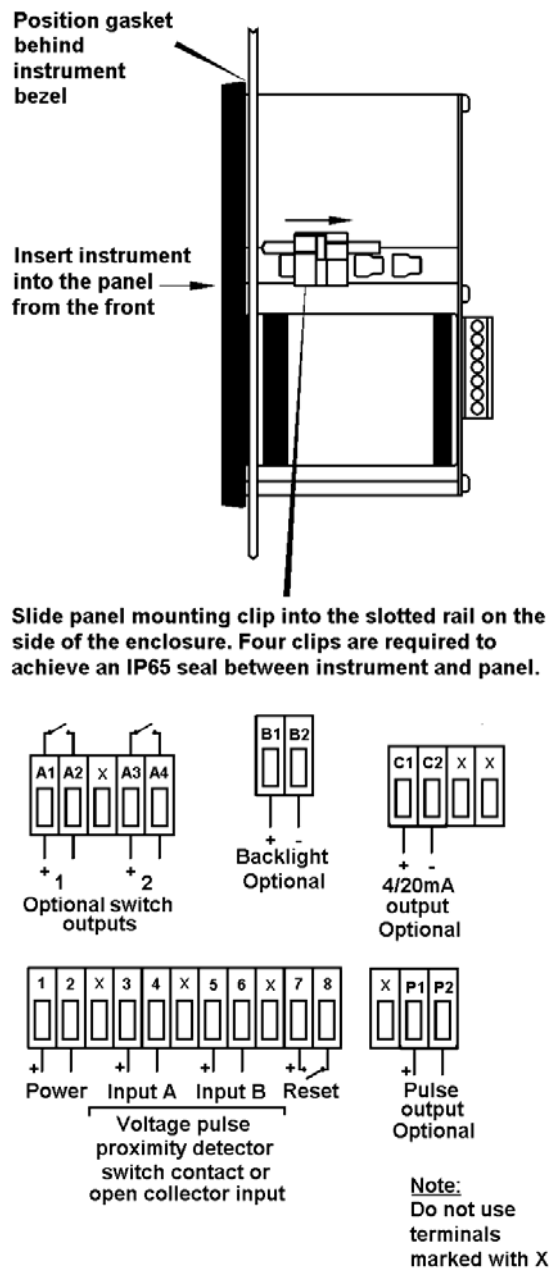

Fig 1.3 Installation and terminal connections
- Fix panel mounting clips to opposite sides of the instrument and tighten until the instrument is secure as shown in Fig 1.3. Four clips are required to achieve an IP65 seal between the instrument enclosure and the panel.
- Connect the panel wiring to the rear terminal block(s) as shown in Fig 1.3. To simplify installation, the terminals are removable so that panel wiring can be completed before the instrument is installed.